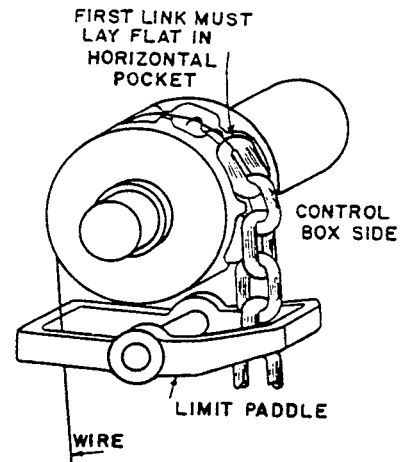

FIG. 13
1. Attach a wire to the end of the chain, allowing 12" to extend from the end. See Fig. 13.